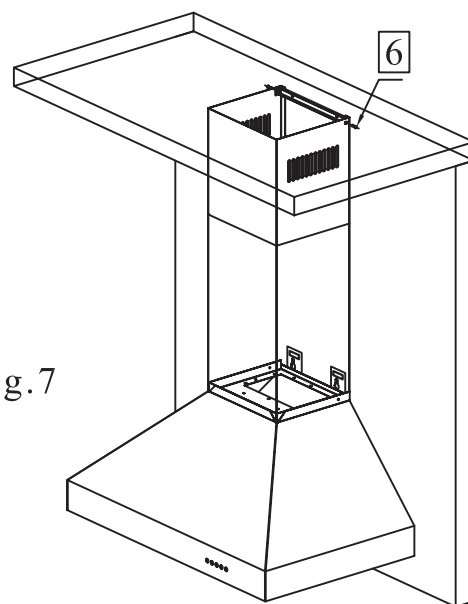

fig.7
**Step 8:** Slide the upper portion up and over the top mounting bracket aligning the holes and securing with the screws provided. fig. 7